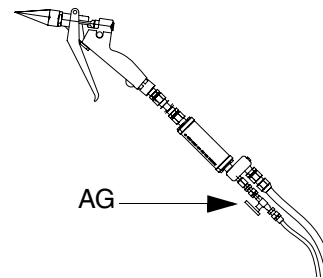

FIG. 27
2. Close the catalyst shutoff valve (AG), FIG. 27.